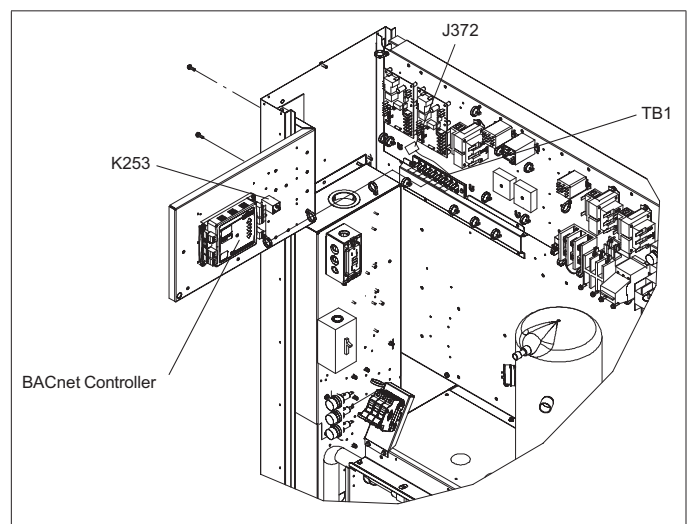

Figure 8. Landmark C-Box
- c. C Box Units - Position the BACnet assembly so that the BACnet module faces the control panel. Align dimples or knock-outs in unit mullion with engaging holes in DDC mounting bracket. Secure with the provided two 5/8” sheet metal screws, see “Figure 8. Landmark C-Box” on page 4.